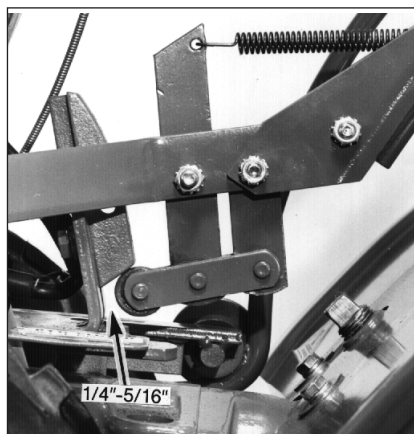

Figure 5-12: Shift into FORWARD and measure distance between roller and upright bracket using the belt adjustment tool.
2. Move the Wheels/Tines/PTO Drive Lever fully down to the FORWARD position. The clutch roller at the bottom of the lever should be positioned underneath the belt adjustment block (Figure 5-12). Don't let the clutch roller move during the next few steps. If it moves, you'll get a false belt tension reading.
3. The belt tension is correct if the front of the clutch roller is 1/4"-to-5/16" away from the face of the upright bracket that holds the adjustment block in place (Figure 5-12). To measure this distance: